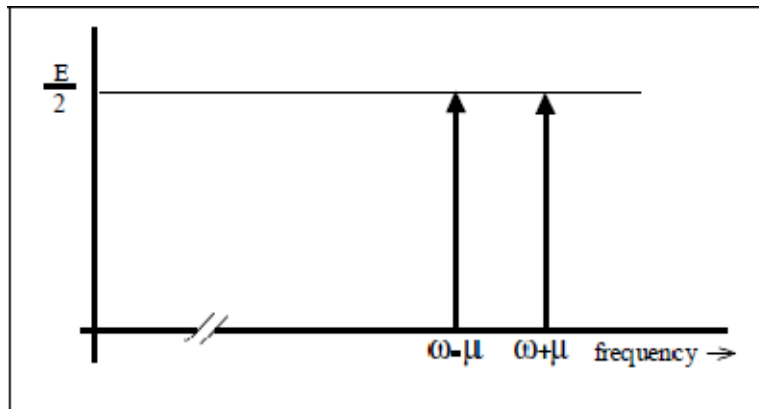

Figure1: Spectral components
Equation (3) shows that the product is represented by two new signals, one on the sum frequency ( $\omega + \mu$ ), and one on the difference frequency ( $\omega - \mu$ ) - see Figure 1.